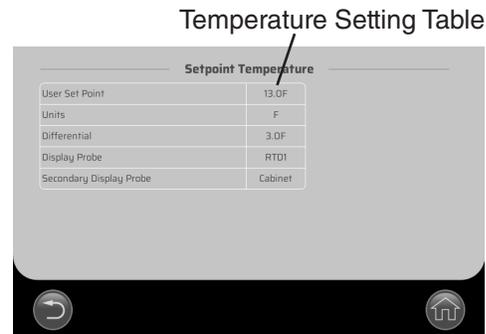

Fig. 15
- 2) Press and release the center of the RTD1 sensor temperature display again. The temperature setting table is shown. See Fig. 15.